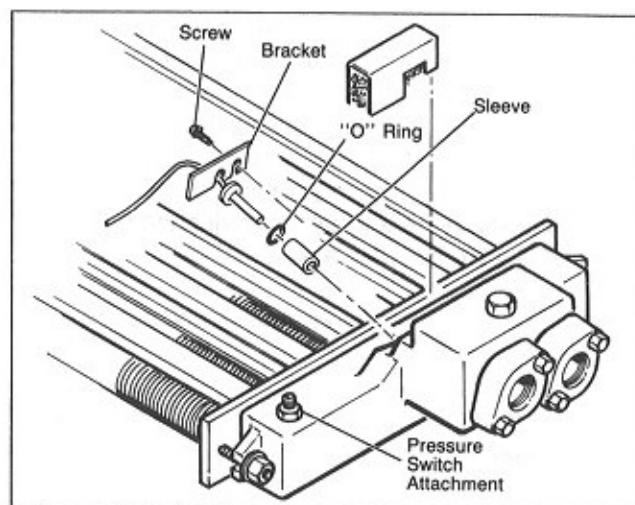

Figure 35. Temperature Sensing Bulb
16. Remove the temperature sensing bulb from the back of the header by loosening the cap screw. Slide the retainer bracket off the bulb flange. Keep the fiberglass insulation under the retainer bracket. Remove the bulb from the header and rotate it out of the way (see Fig. 35).